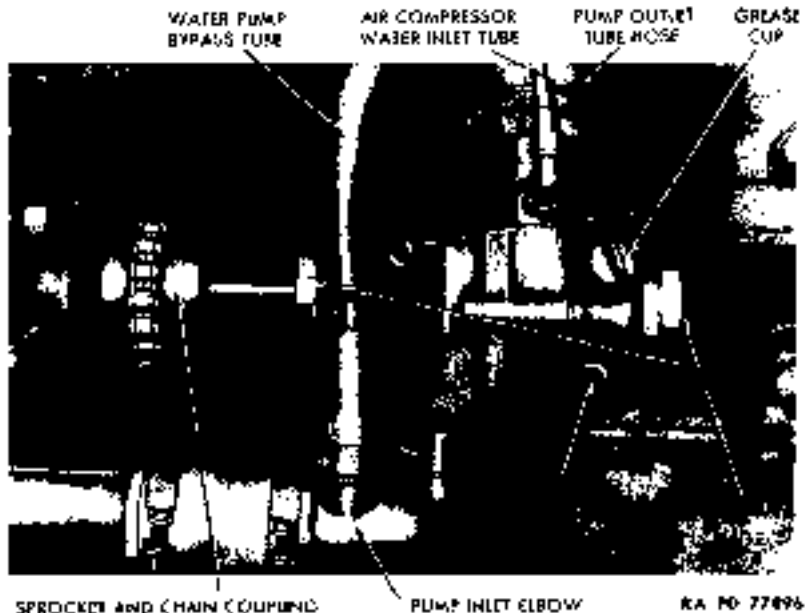

Figure 40 - Water Pump installed
(1) **DESCRIPTION** (fig. 40). The water pump is the centrifugal type, driven by a horizontal pump shaft which is chain-coupled to the distributor drive shaft. It is mounted on engine at center of left side, and is coupled to the pump inlet elbow, water pump bypass tube, air compressor water inlet tube, and pump outlet tube. The pump assembly includes packing nuts for adjustment.
(2) TABULATED DATA.
b. **Adjustment** (fig. 40.) One packing nut is attached to each end of pump to provide for leakage adjustment. Turn nut at either end
(1) **DISENGAGE PUMP OUTLET TUBE** (fig. 40). Loosen hose clamp which secures hose to pump, and work hose from pump.
(2) **DISCONNECT PUMP INLET ELBOW** (fig. 40). Remove the two cap screws and lock washers which secure elbow to pump, remove elbow gasket, and pull elbow free from pump.
(3) **DISCONNECT AIR COMPRESSOR WATER INLET TUBE** (fig. 40). Screw tube nut from fitting on pump.
(4) **REMOVE PUMP COUPLING CHAIN** (fig. 40). Drive connecting link lock on front of chain from connecting link, remove link cover, and pry link from chain. Remove chain.
(5) **REMOVE PUMP FROM ENGINE** (fig. 40). Remove the four cap screws and lock washers which secure pump to block. Remove pump, then remove gasket.
(1) **INSTALL PUMP ON ENGINE** (fig. 40). Install new gasket, and use dowel guide to position pump on engine. Install the four cap screws and lock washers which secure pump to cylinder block.
(2) **INSTALL PUMP COUPLING CHAIN** (fig. 40). Position chain to pump coupling sprocket. Insert connecting link, secure with lock, and install cover on link.
(3) **CONNECT PUMP INLET ELBOW** (fig. 40). Using new gasket, position elbow to pump, and secure with the two cap screws and lock washers.
(4) **CONNECT PUMP OUTLET TUBE** (fig. 40). Fit hose over tube, and tighten hose clamp.
(5) **CONNECT AIR COMPRESSOR WATER INLET TUBE** (fig. 40). Screw tube nut to fitting on pump and tighten nut.